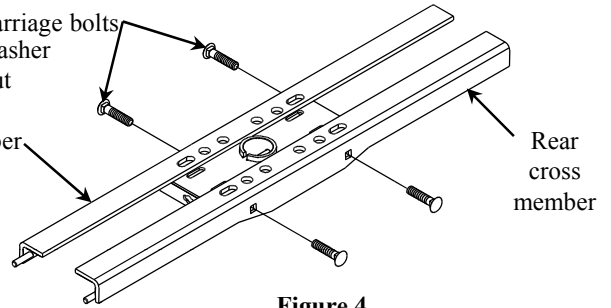

Figure 4
6. Slide the hitch cross members half way through the notches in the sheet metal flange and place 5/8 carriage bolts from the 9465/9475 fastener kit into the square holes on the vertical leg of the cross members, from underneath the vehicle. Slide the hitch cross members above both vehicle frame rails and align hitch cross members as shown in Figure 6. **Note: if the truck bed has been loosened as in step 5a, the hitch can be loosely preassembled to the cross members, and the hitch and cross members can be slid between the truck bed flange and the vehicle frame (see figure 4). The truck bed will need to be propped up on the driver's side about 3-1/2" to slide the hitch and cross members into position.**